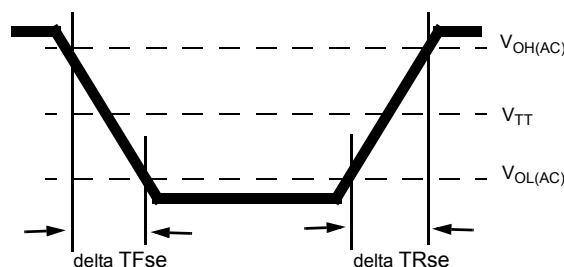

Figure 6. Single Ended Output Slew Rate definition
With the reference load for timing measurements, output slew rate for falling and rising edges is defined and measured between V_{OL}(AC) and V_{OH}(AC) for single ended signals as shown in Table 16 and figure 6.